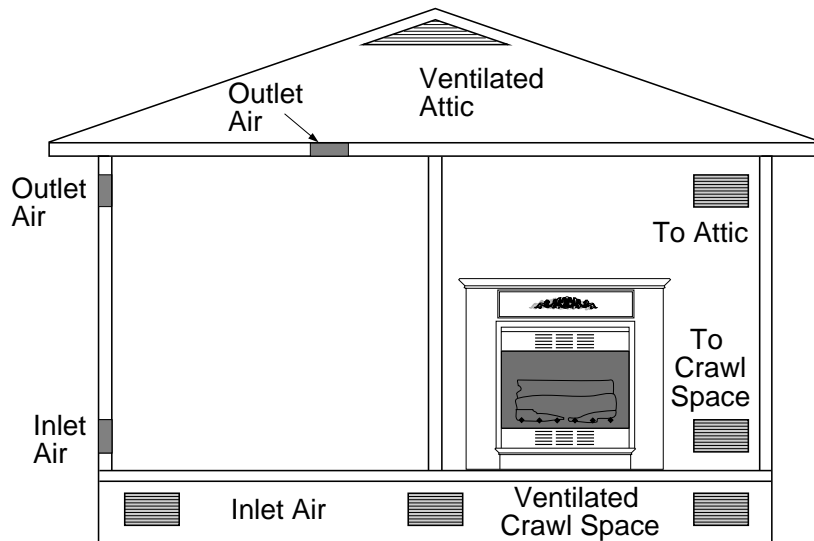
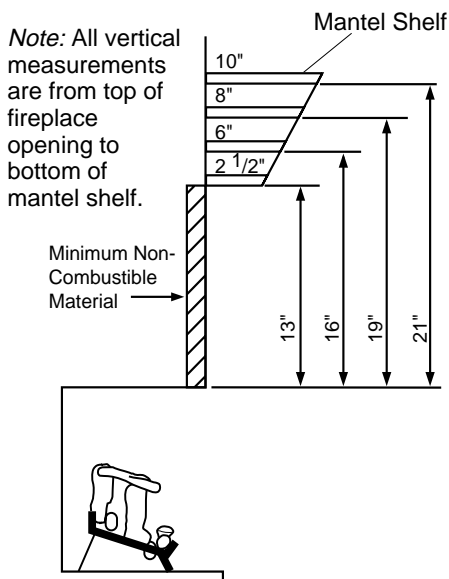

Figure 3 - Ventilation Air from Outdoors Shown with Optional Mantel
Figure 8 - Minimum Mantel Clearances for Built-In Installation
- For mantel clearances, see Figure 8 on page 9.
Built-in installation of this fireplace involves installing fireplace into a framed-in enclosure. This makes the front of fireplace flush with wall. Follow the instructions below to install the fireplace in this manner. If installing a built-in mantel above the fireplace, you must follow the clearances shown in Figure 8, page 9. If using for built-in installation off of the floor, follow clearances shown in Figure 3, page 7.